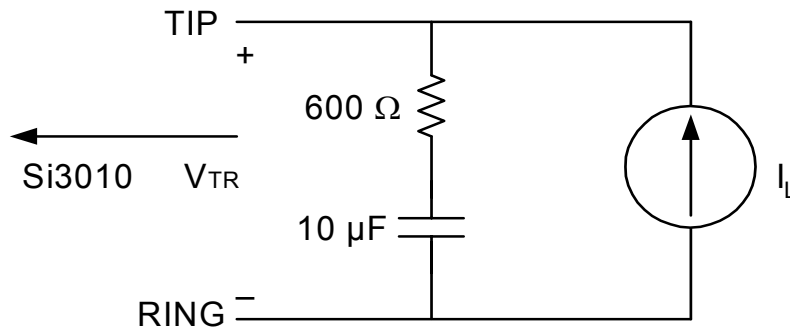

Figure 1. Test Circuit for Loop Characteristics
($V_D = 3.0$ to 3.6 V, $T_A = 0$ to 70 °C for F-Grade, see Figure 1 on page 6)
1. Measured at TIP and RING with 600 Ω termination at 1 kHz, as shown in Figure 1 on page 6.